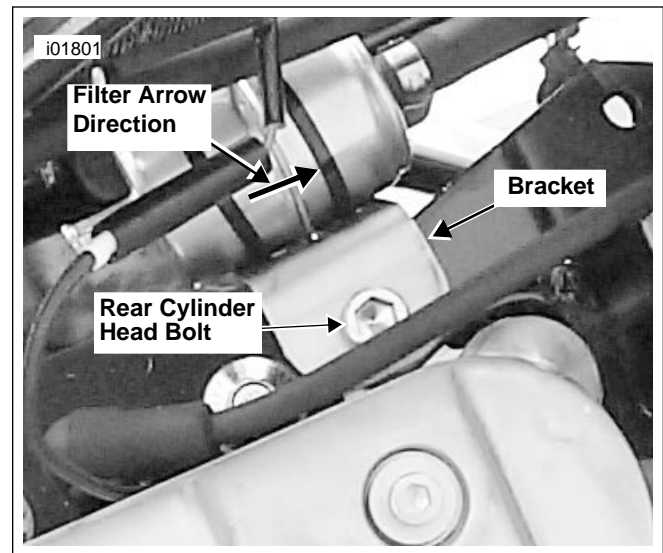

Figure 4. Clamp Mounting
8. See Figure 4. Remove the rear cylinder head bolt and washer. Discard washer.
13. See Figure 4. Remove the rear cylinder head bolt and washer. Discard washer.